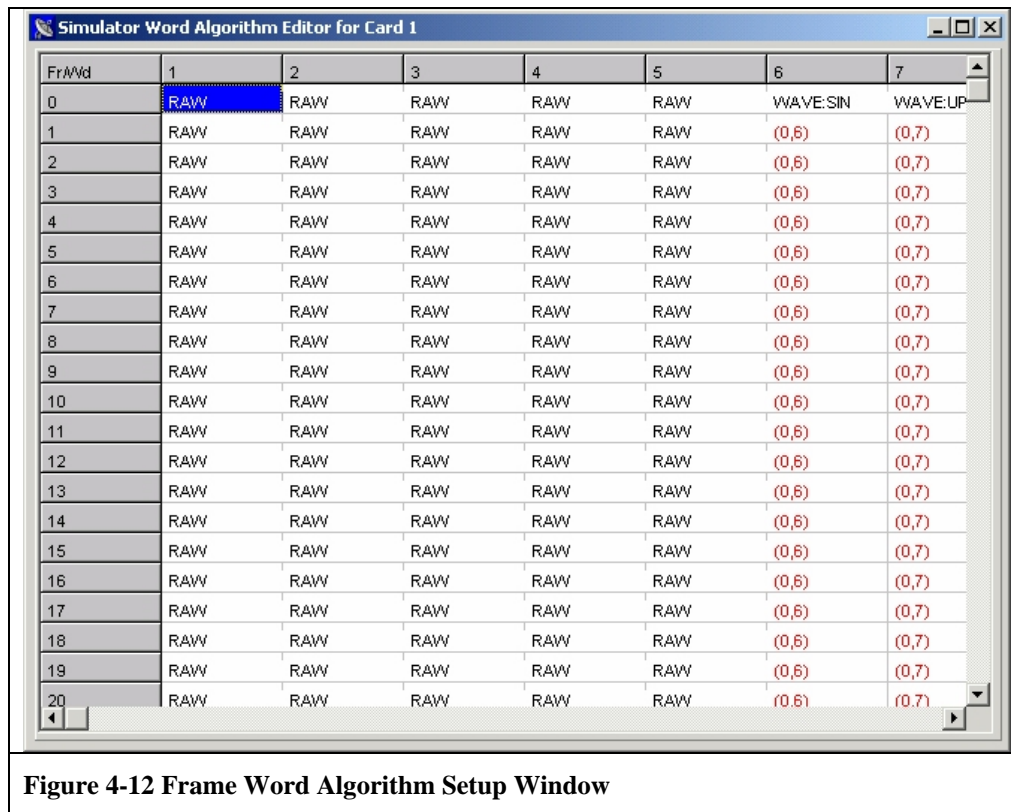

Figure 4-12 Frame Word Algorithm Setup Window
Clicking the Frame Word Algorithms button will invoke the setup window shown in Figure 4-12 on page 94. This option is available on both the User Defined PCM and Playback mode setup windows. This is where the user defines how to override the raw data. Clicking on the button will invoke a PCM frame showing a grid of words. Each word location will have a specific data algorithm used for that word in the grid. In the case where there is a particular commutation of the word, the grid location will have a red parenthesis around the starting minor frame and starting word for the commutation. Select the word to override by right
- The user needs to remember what words can have an, 'other than raw format' selected for them. One way to ascertain the word status is to open up the Frame Word Algorithms window (see Figure 4-12 on page 94) when a file is recalled. It is an easy habit to get into - recalling the same setup, mixing them for User Defined PCM mode and Playback mode. The program does not make a distinction for the two modes when overriding the raw data.